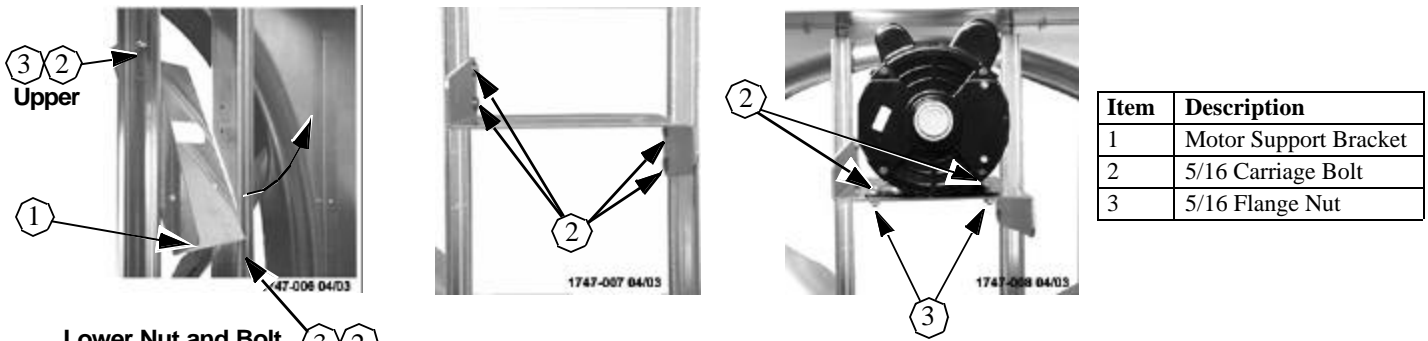

Figure 3. Attaching the Motor Support Bracket and Motor
Rotate the Motor Support Bracket into the upright position by removing the **Upper** Carriage Bolt and Nut and loosening the **Lower** Bolt and Nut (See **Figure 3**). Rotate the Motor Support Bracket until it is perpendicular to the Fan Posts and fasten with (4) 5/16 Carriage Bolts and (4) 5/16 Flange Nuts. *Note that the Nuts go outside the Posts.* Remove the Motor from the Crate and attach it to the Motor Support Bracket with (4) 5/16 Carriage Bolts and (4) 5/16 Flange Nuts **as shown**.